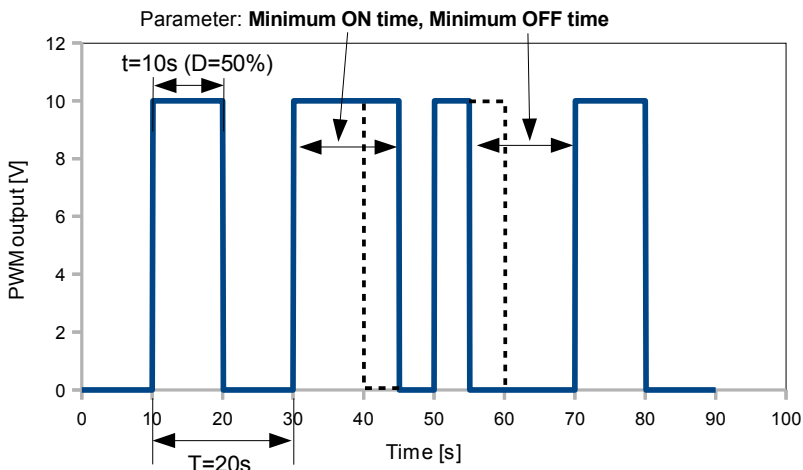

Fig. 7.76. Sample of output signal of SSR relay in PWM mode
- **Minimum ON time** - minimum duration of high state, see Fig. 7.76,
- **Minimum OFF time** - minimum duration of low state, see Fig. 7.76,